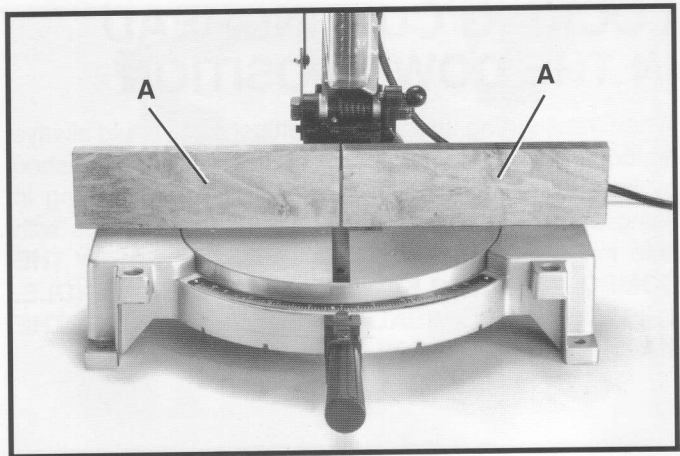

Fig. 31
Holes are provided in the fence to attach an auxiliary fence (A) Fig. 31. This auxiliary fence is constructed of straight wood approximately 1/2 inch thick by 3 inches high by 20 inches long. **NOTE:** The auxiliary fence (A) is used **ONLY** with the saw blade in the 0 degree bevel position (90 degrees to the table). When bevel cutting (blade tilted) the auxiliary fence will have to be removed.